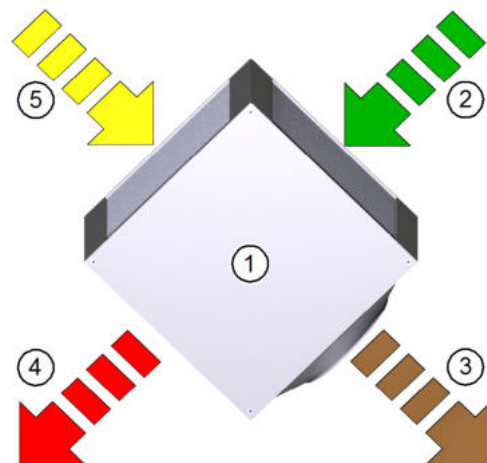

Fig. 9: How the cross-flow plate heat exchanger works
The warm extract air (item 5 in Fig. 9) drawn in from the interior is routed through the chambers of the cross-flow plate heat exchanger (item 1 in Fig. 9) and heats them.
The cooled extract air is carried to the outside as exhaust air (item 3 in Fig. 9).
At the same time, the cold outdoor air that is drawn in (item 2 in Fig. 9) is routed through the chambers of the cross-flow plate heat exchanger, which are separate from the extract air, and is heated. The separate chambers prevent the outdoor air and extract air from mixing.
The heated outdoor air is routed into the interior as supply air (item 4 in Fig. 9).